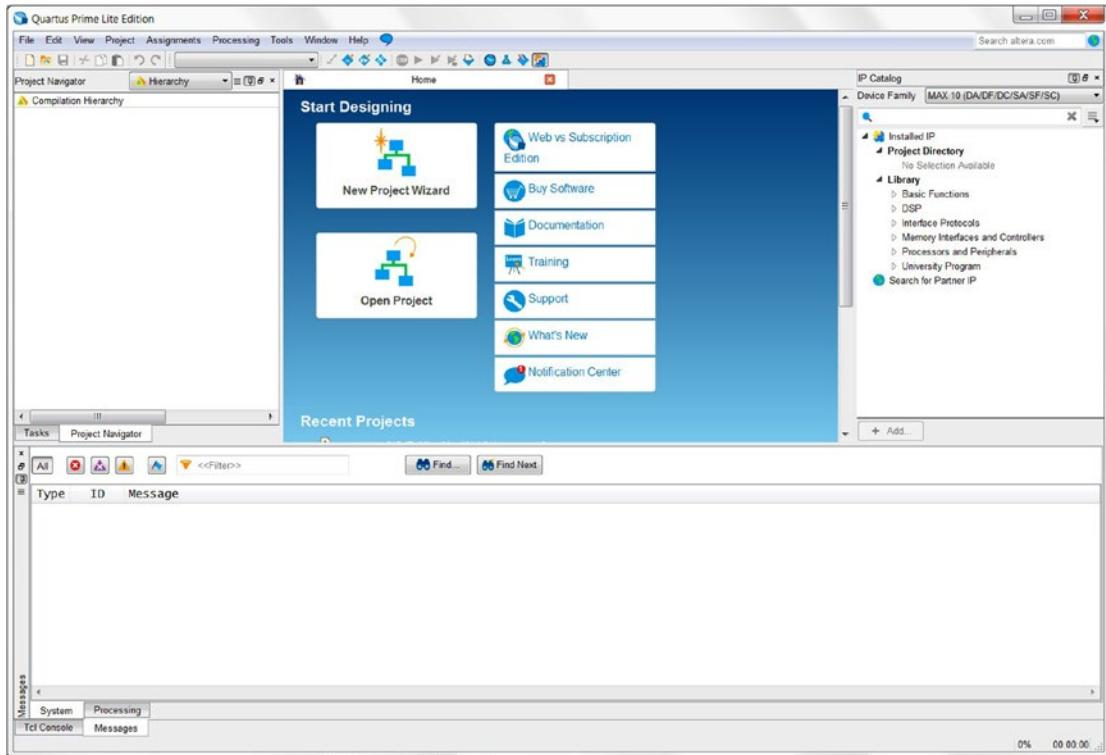

Figure 4-1. Quartus Prime Lite Edition
1. Click **Start > All Programs > Altera 15.1.x.xxx Lite Edition > Quartus Prime Lite Edition 15.1.x.xxx > Quartus Prime 15.1**, or click the shortcut on your desktop. The Quartus Prime Lite Edition will open. The first time you open Quartus Prime, it looks like Figure 4-1.